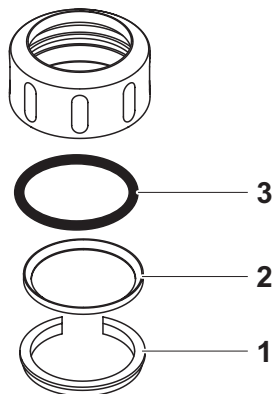

Fig. 5-2 Dismantling the coupling ring
| 1 | Remove the retaining ring (pos. 1 in Fig. 5-2). |